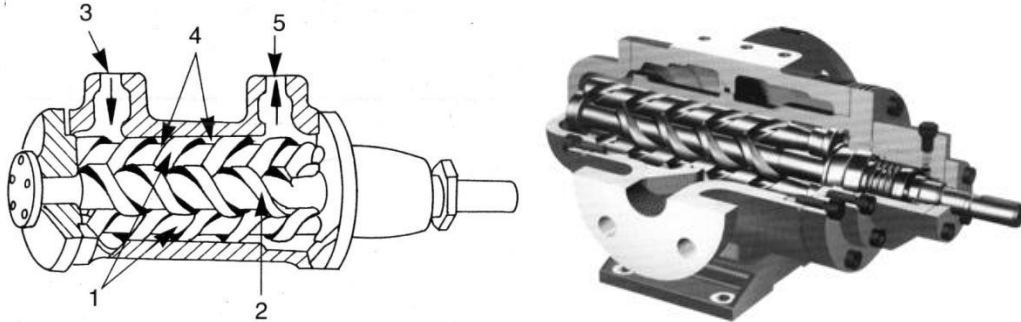

Figure 10.8 Operation of the screw pump
For the operation of the pump, see **Figure 10.8**. The side screws (1) are driven by the central screw (2) and the liquid is drawn in through the opening (3), where it travels along grooves (4) to be pumped out through the delivery hole (5).